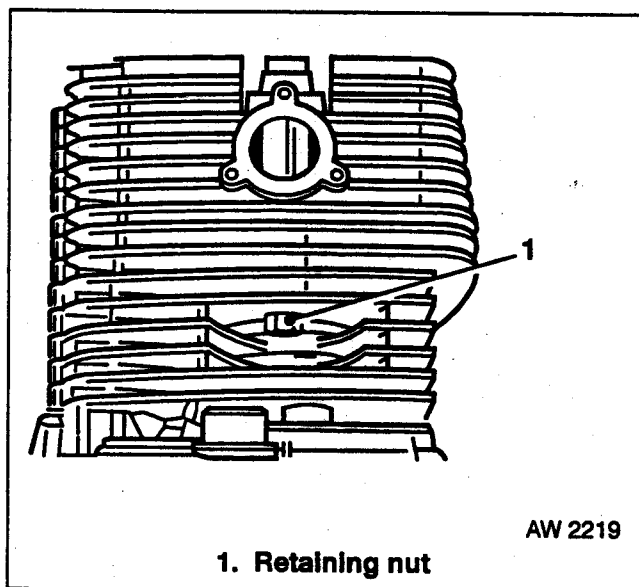
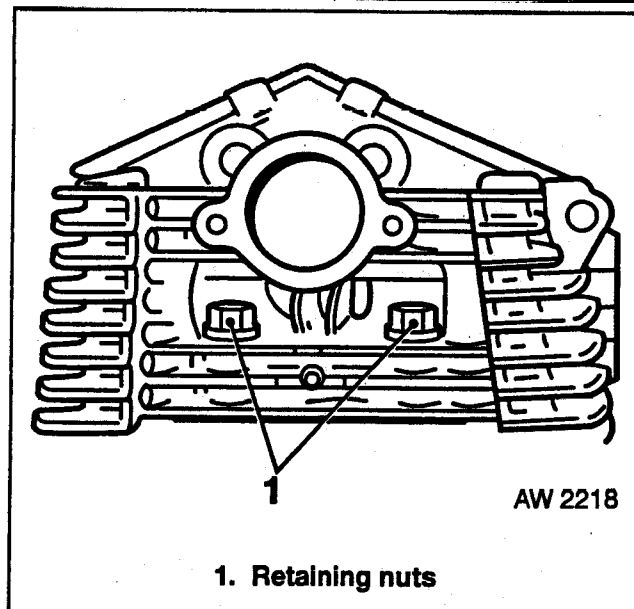
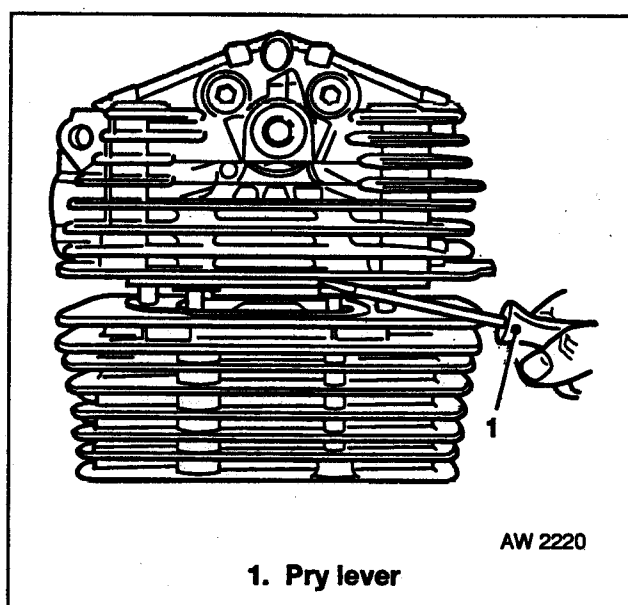

Fig 2.5 Cylinder Head Retaining Nut
Fig 2.6 Cambelt Side Cylinder Head Retaining
Fig 2.7 Cylinder Head Removal
- c. Undo the 2 – 8M lower head securing studs (Fig 2.5 refers) then diagonally release the 4 – 10M cylinder head securing nuts (Fig 2.6 refers), noting the position of the one capped nut (magneto side – intake end of head). Failure to use the capped nut in this position will result in oil leakage – the cylinder head will now be free to lift off, if stuck 2 pry levers can be used but make sure NO damage to the cylinder mating faces occurs (Fig 2.7 refers).